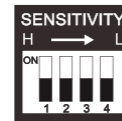

Figure 2
1. Set sensitivity OFF (Figure 2).